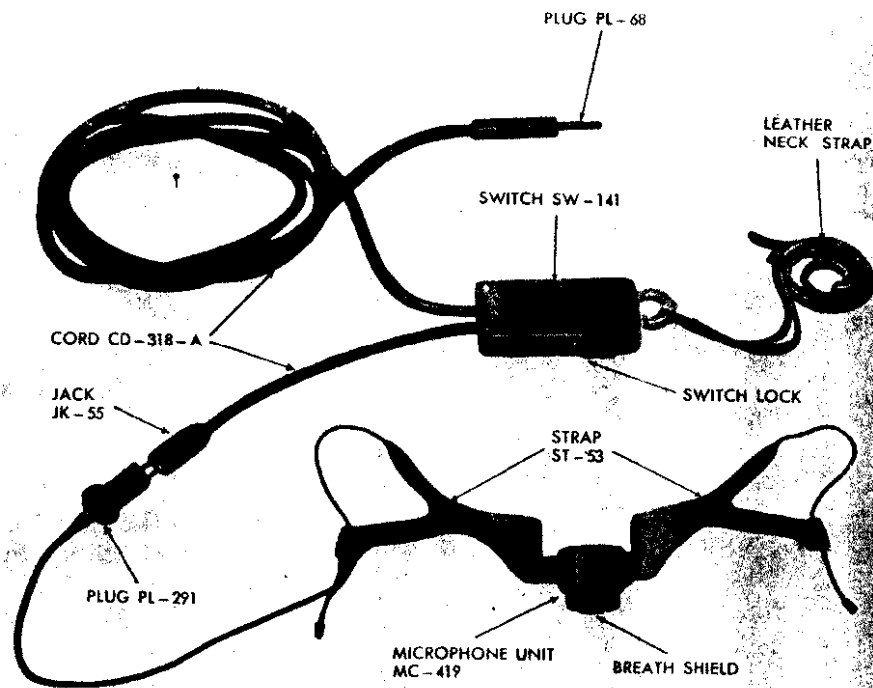

Figure 21. Microphone T-45 and cord CD-318-A.
14. Microphone T-45 (figs. 21 and 22)